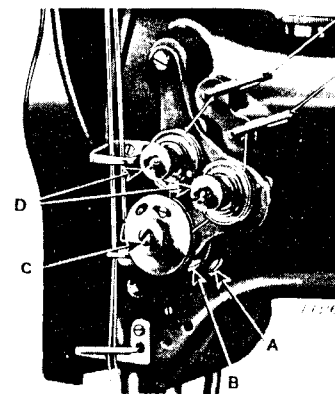

Fig. 17. Adjustment of Thread Controller
The tensions on the needle threads are regulated by the two thumb nuts (D, Fig. 17) at the front of the tension discs on the front of the machine. To increase the tension, turn these thumb nuts over to the right. To decrease the tension, turn the thumb nuts over to the left.
To change the thread controller stop for more controller action on the thread, loosen the set screw (B, Fig. 17) and rotate the thread controller spring stop to the right; for less action, rotate to the left, after which securely tighten the set screw (B).
To increase the tension of the thread controller on the threads, loosen the tension stud set screw (A, Fig. 17), located nearly under the tension stud, and turn the tension stud (C, Fig. 17) slightly to the left with a screwdriver, or to decrease the tension, turn it to the right and retighten the stud set screw (A).